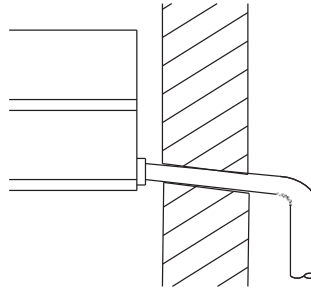

Figure 25
- (1) Be sure the fan coil unit is mounted in level position on the ceiling as well as on the floor/wall.
- (2) The indoor unit uses gravity to drain: therefore, the piping outside the unit should slope downward. $\frac{1}{4}$ " per foot is recommended. See figure 25 and 26